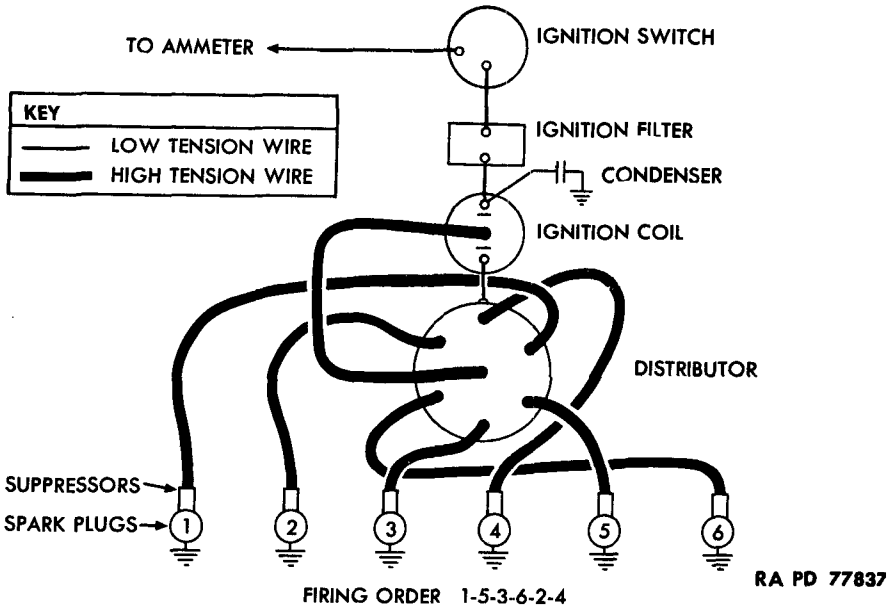

Figure 43 — Ignition System Wiring Diagram
79. DESCRIPTION (fig. 43).
a. **Description (fig. 43).** High tension wires are used to conduct high-voltage current from ignition coil to distributor and from dis-